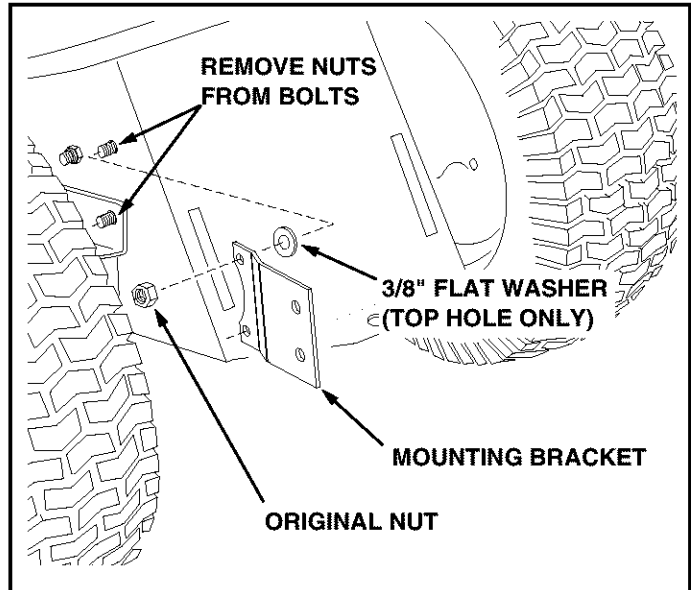

FIGURE 2
- Remove the nuts from the two bolts in each side of the tractor, leaving the bolts in place. See figure 2.
- Attach the Mounting Brackets to the bolts using the original nuts and two 3/8" flat washers. The brackets should be turned so that the bends increase the distance between the rear of the brackets. See Figure 2.